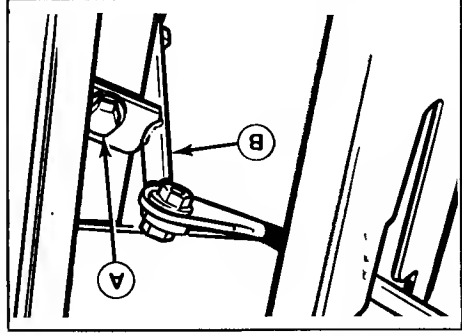
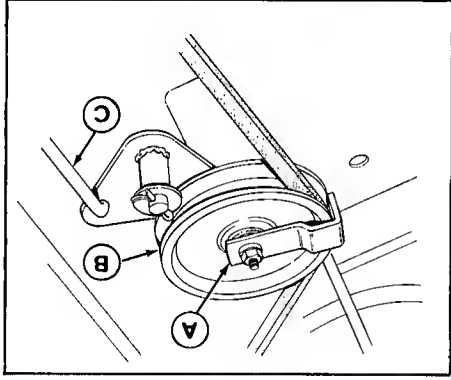

Figure 20. Gear Shift Lever
Figure 21. Removing Belt Guide
3. Remove the nut, washers, and capscrew (A, figure 20) from the gear shift lever (B). Remember position of hardware for reinstallation.
4. Remove the belt guide from the idler pulley (figure 21).
8. Install the nut, washers, and capscrew at gear shift lever (figure 20). Reinstall the belt guide (figure 21). The belt guide should be positioned perpendicular to tractor. The belt should not touch the guide when tractor is engaged.